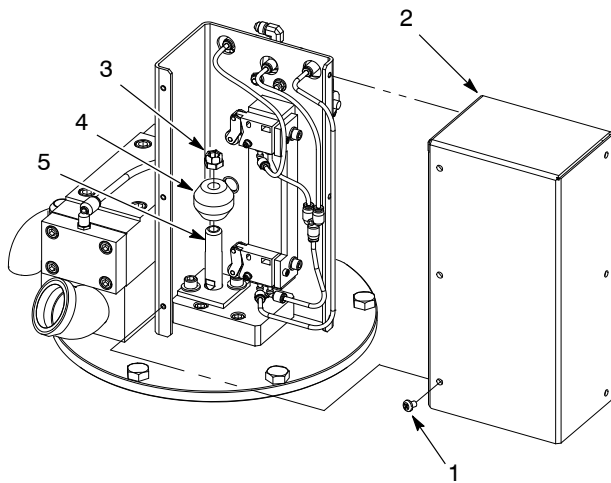
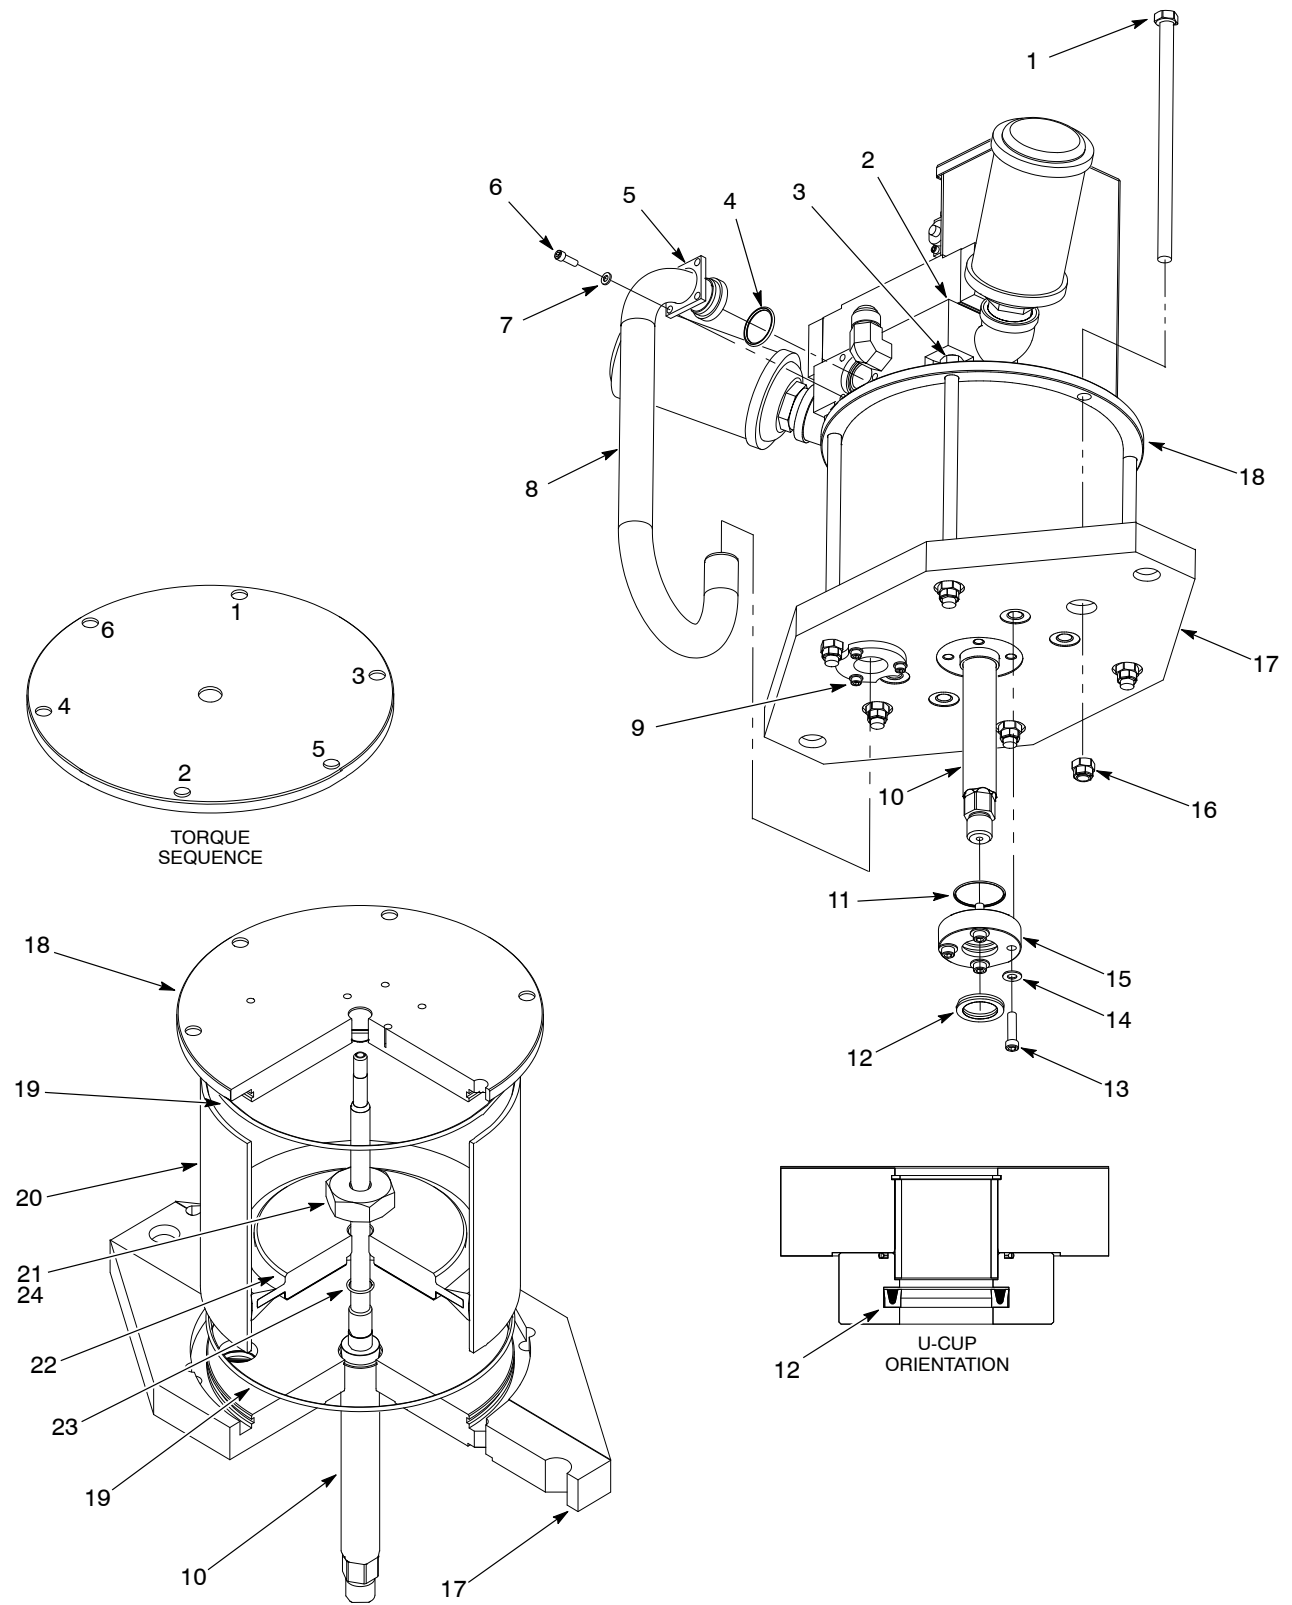

Figure 11 Removing the Trip-Rod Cover
Figure 12 Replacing the Piston
1. See Figure 11. Remove the screws (1) securing the trip-rod assembly cover (2).
2. Place a wrench on the flats of the piston rod (5).
3. Remove the nut (3) securing the trip-bar (4) to the piston rod (5).
4. See Figure 12. Remove the screws (6) and washers (7) securing the upper supply tube retainer (5) to the air manifold (2).
5. Loosen the lower supply tube retainer screws (9).
6. Remove the supply tube (8) from the air manifold (2) and base plate (17). Remove and discard the O-ring (4) from the air manifold (2).
7. Remove the screws (13) and washers (14) securing the piston rod retainer (15) to the base plate (17). Remove the O-ring (11) and U-cup (12). Discard the O-ring and U-cup.
8. Remove the screws (1) and nuts (16) securing the air motor cap (18) to the base plate (17). Use a wrench on the flats of the two screws (3) below the air manifold (2) to remove the nuts.
9. Remove the air motor cap (18) and set it on a flat surface. Remove and discard the air motor cap O-ring (19).
10. Remove the air cylinder (20) and O-ring (19) from the base plate (17). Discard the O-ring. Remove the piston assembly from air cylinder.
11. Remove the nut (21) securing the piston (22) to the piston rod (10). Remove the O-ring (23) from the piston rod and discard.
1. See Figure 12. Apply TFE grease to the following parts:
- inner surface of the air cylinder (20)
- piston (22)
- U-cup (12)
2. Install the O-ring (23) onto the piston rod (10).
3. Apply Loctite 242 (24) to the upper threads of the piston rod (10). Install the piston (22) onto the piston rod. Install the nut onto the piston rod and tighten to 200–220 ft-lb (271–298 N•m).
4. Assemble the piston assembly and air cylinder (20):
- b. Apply TFE grease to the piston rod (10).
5. Install the O-rings (19) onto the base plate (17) and air motor cap (18).
7. Install the air motor cap (18) onto the air cylinder (20) using the screws (1, 3). Perform the following:
- a. Install the nuts (16) onto the screws.
8. Insert the O-ring (11) and U-cup (12) into the piston rod retainer (15) as shown.
9. Install the piston rod retainer (15) onto the base plate (17) using the screws (13) and washers (14). Tighten the screws to 22–25 ft-lb (30–33 N•m).
10. Carefully insert the bottom portion of the air supply tube (8) through the lower retainer (9) and into the base plate (17).
11. Carefully insert the upper portion of the air supply tube (8) into the air manifold (2).
12. Secure the upper retainer (5) to the air manifold (2) using the screws (6) and washers (7). Tighten the screws to 10–12 ft-lb (13–16 N•m).
13. Tighten the screws on the lower retainer (9) to 10–12 ft-lb (13–16 N•m).
14. See figure 11. Install the trip-bar (4) to the piston rod (5) using the nut (3). Tighten the nut securely.
15. Install the cover (2) to the air motor using the screws (1). Tighten the screws securely.